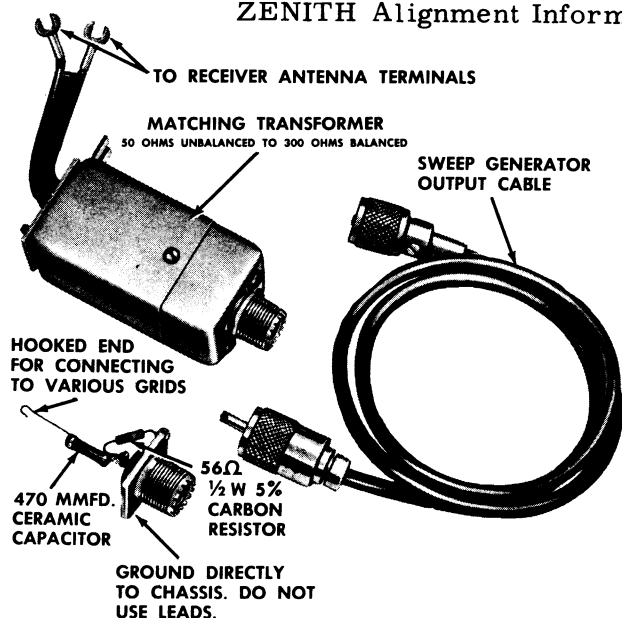
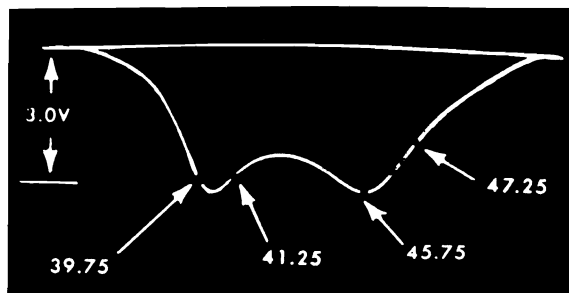

Fig. 4 IF-RF Alignment Fixtures
Fig. 5 4th IF Response
3. Feed the sweep generator through a special terminating network as shown in Fig. 4 to Point "G" (Pin 2 of the 3rd IF). Adjust generator to obtain a response similar to Fig. 5 with a detector output of 3 volts peak to peak. Do not exceed this level during any of the adjustments.
4. Set the marker generator to 45.75 Mc and alternately adjust the top and bottom cores of the 4th IF for maximum gain and symmetry with the 45.75 Mc marker positioned as shown in Fig. 5. The two peaks must be equal in height and the high frequency
3. Feed the sweep generator through a special terminating network as shown in Fig. 4 to Point "G" (Pin 1 of the 3rd IF). Adjust generator to obtain